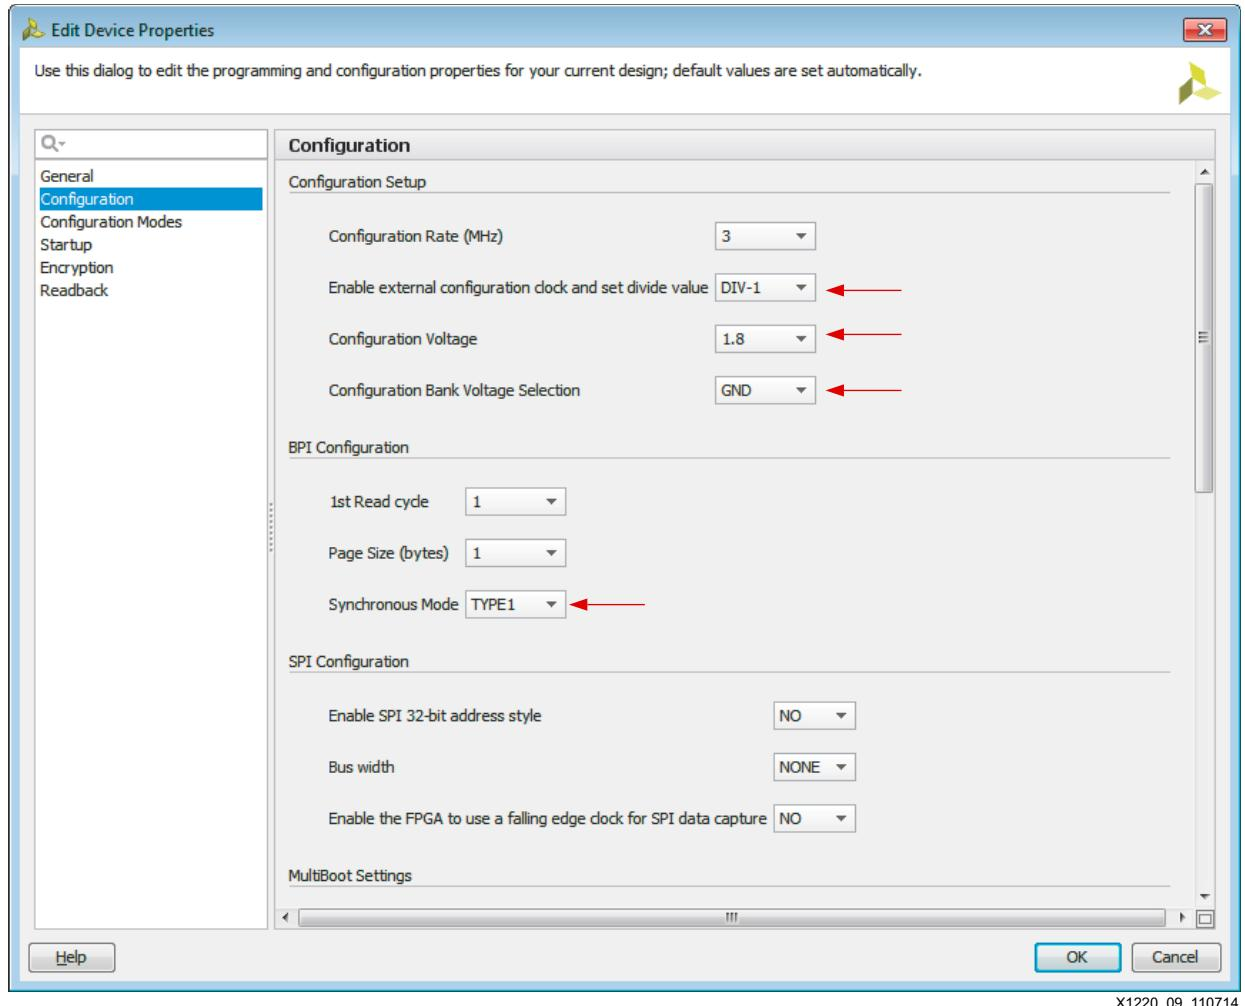

Figure 9: Configuration Options for Configuration Bitstream Settings
4. Under the Configuration category, ensure that the options shown in Figure 9 are selected to generate a bitstream for BPI configuration with synchronous read capability using the external configuration clock (EMCCLK).